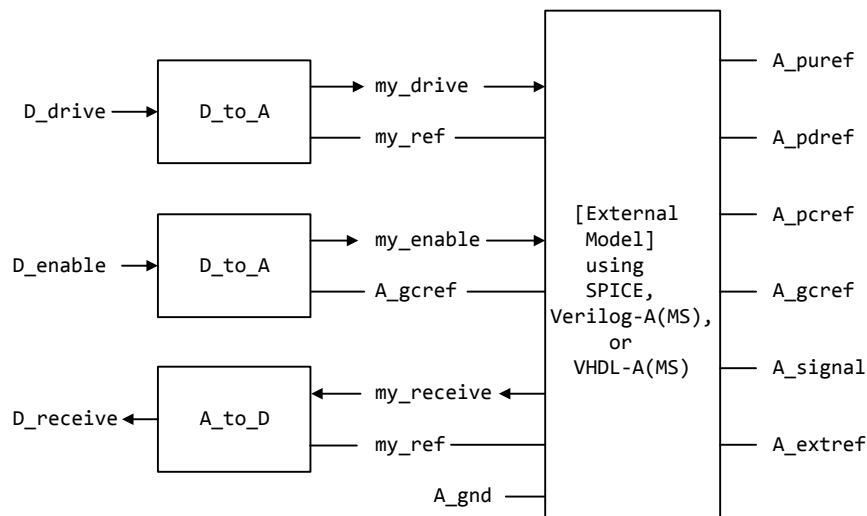

Figure 25 - Example of an [External Model] I/O Buffer Using SPICE, Verilog-A(MS), or VHDL-A(MS)
A conceptual diagram of the port connections of a SPICE, Verilog-A(MS) or VHDL-A(MS) [External Model] is shown in Figure 25. The example illustrates an I/O buffer. Note that the drawing implies that the `D_receive` state changes in response to the analog signal `my_receive`, not `A_signal`: